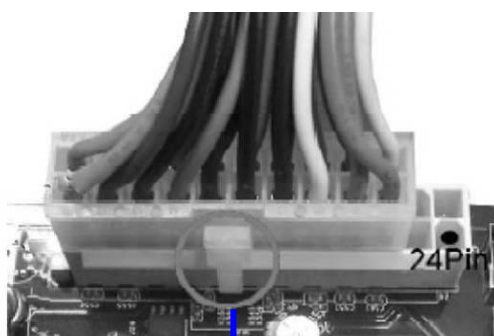

Figure1: 20-pin power plug
- \*\* If you are using a 20-pin power plug, please refer to Figure1 for power supply connection. Power plug form power supply and power connectors from motherboard both adopt key design to avoid mistake installation. You can insert the power plug into the connector with ease only in the right direction. If the direction is wrong it is hard to fit in and if you make the connection by force it is possible.